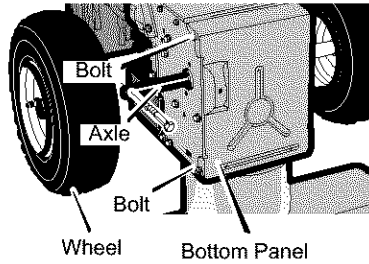

Figure 51
4. Remove the fasteners that secure the left **wheel**. Remove the **left wheel** from the **axle** (see Figure 51)
19. Install the **bottom panel** (see Figure 51).